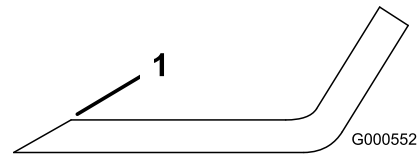

Figure 70
1. Use a file to sharpen the cutting edge at both ends of the blade (Figure 70).
**Note:** If the blade is not balanced, file some metal off the end of the sail area only (Figure 70).